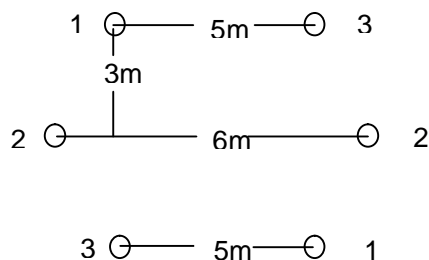

Fig. 1
- Find the inductance and capacitance per phase per km of double circuit 3-phase line shown in Fig.1. The line is completely transposed and operates at a frequency of 50Hz. The radius of the conductor is 7mm.